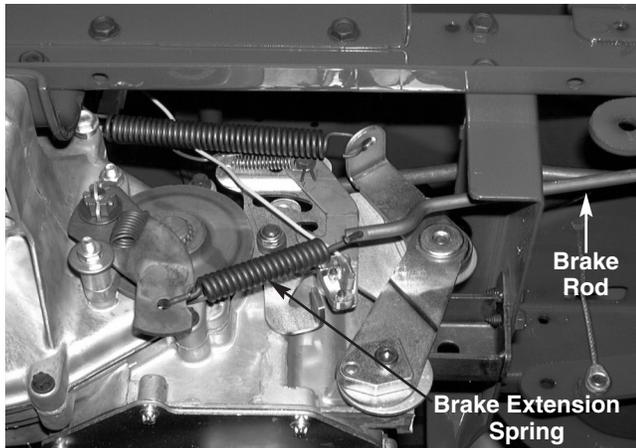

FIGURE 9.
**NOTE:** The hydrostatic transmission can be tilted to assist brake spring removal. See figure 9.